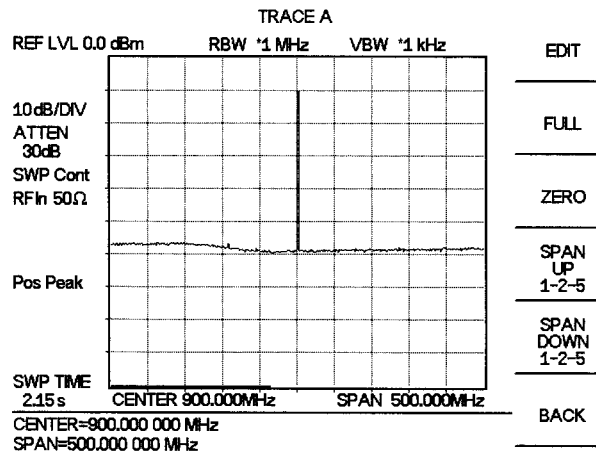

Figure 2-8. Signal at 900 MHz
- Step 3. Enter 900 on the keypad and select the MHz soft key . Observe that the signal resembles that shown in Figure 2-8.